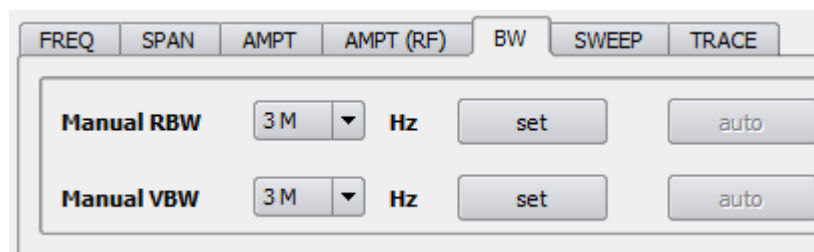

Figure 13: Operating example for auto mode in FSH4Remote
In addition to manual setting, some parameters can also be operated in the *auto* mode. The deactivated (greyed out) auto button in FSH4Remote shows the *auto* mode. When a value is set using the **set** button, the *auto* mode is automatically deactivated. Figure 13 shows an example for the bandwidth (BW).